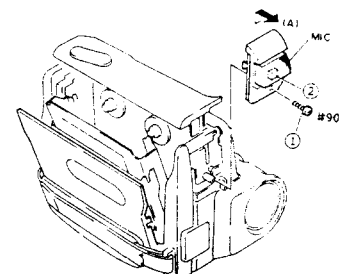
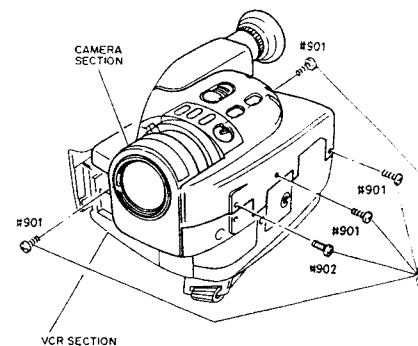
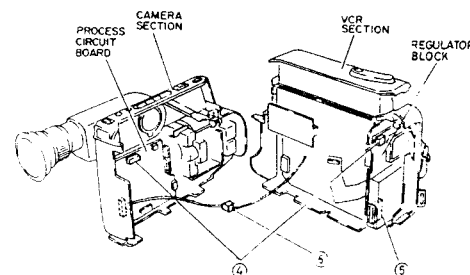

Fig. 2-11
Fig. 2-12
Fig. 2-13
- 1) Remove one (1) screw holding the microphone (MIC). (See Fig. 2-11)
- 2) Remove the MIC in the direction of arrow (A) and disconnect one (1) connector (CN014) on the MIC.
- 3) Remove five (5) screws holding the camera section and VTR section. (See Fig. 2-12)
- 4) Disconnect two (2) connectors (CN515, CN903) on the regulator block and
- 5) Process circuit board. (See Fig. 2-13)
- 6) Disconnect one (1) flat cable (CN1216) from the regulator block.